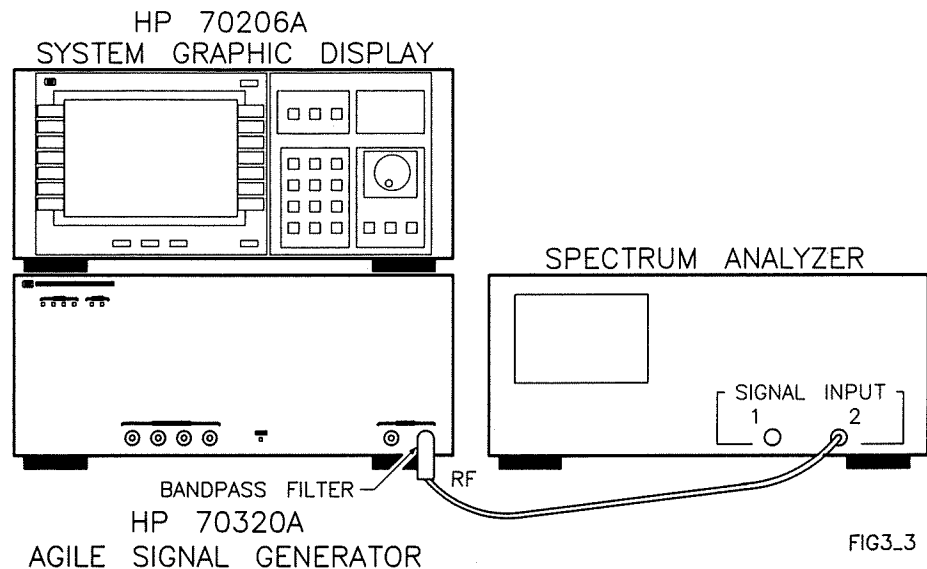

Figure 3-3. Equipment Setup for the Sweep Exercise.
1. Connect the HP 70320A to the Bandpass Filter and the Spectrum Analyzer as shown in figure 3-3. Turn on the equipment and make the following adjustments to the Spectrum Analyzer: